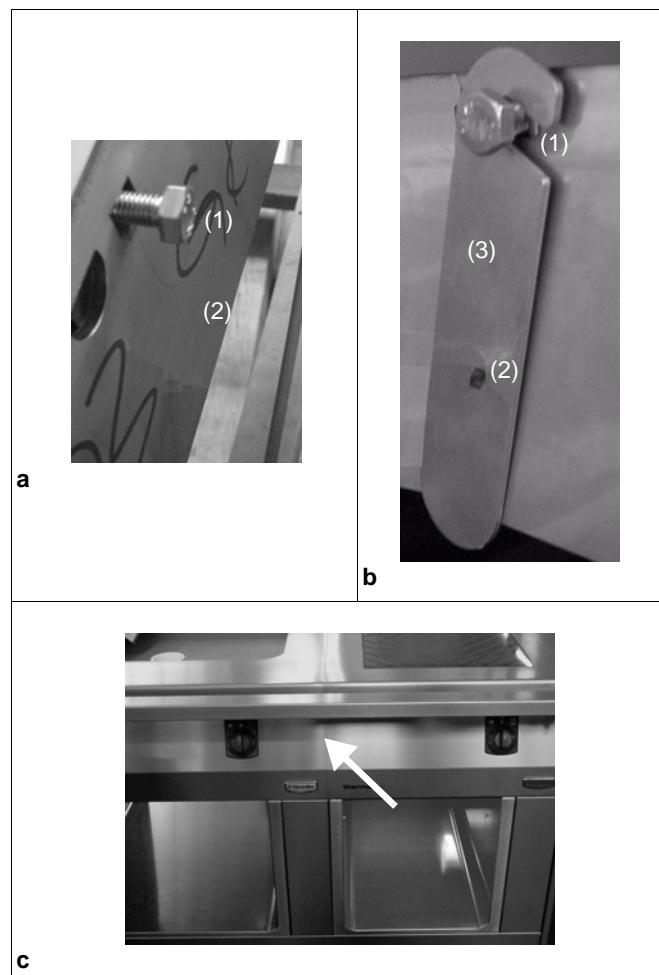
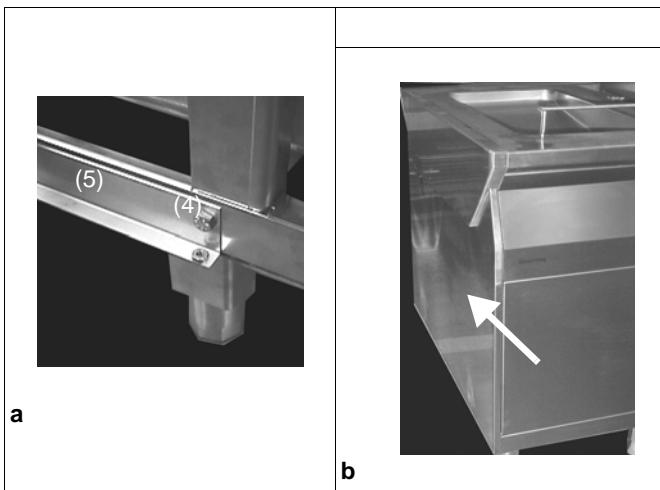

Fig.1 Lateral connection
Fig.2 Assemblage of sidewall
caged nuts (1 / Fig.1) pre-assembled on the right-hand side of the appliance, hexagonal screws M8x25 (1 / Fig.1), bolts with retaining rings (2 / Fig.1) and mounting links (3 / Fig.1)
- ⇒ Insert the bolts with the retaining rings (2 / Fig.1) from outside into the guide in the right-hand connecting plate.
- ⇒ Keeping the screw (3 / Fig.1) loose, turn it until it is approximately 5 mm deep in the caged nut.
- ⇒ Push the appliances together so that the bolts (1 / Fig.1) engage in the guides of the appliance to be attached.
- ⇒ Fit the mounting link (3 / Fig.1) into the inside of the second appliance's left connecting plate.
hexagonal screws M8x25 (1 / Fig.1), bolts with retaining rings (2 / Fig.1), mounting links (3 / Fig.1), hexagonal screws M8x16 with serrated washers and hexagonal nuts M8, hexagonal screws M5 with serrated washers (4 / Fig.2)
and a fastening angle (5 / Fig.2).
(4 / Fig.2).